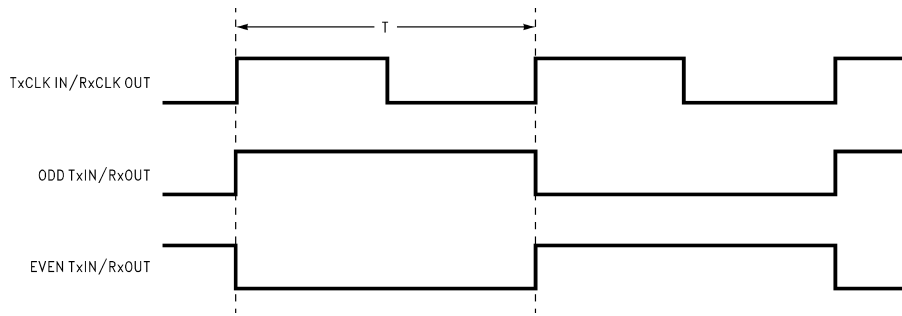

Figure 2. "Worst Case" Test Pattern
- C. Figure 2 Figure 3 show a falling edge data strobe (TxCLK IN/RxCLK OUT).